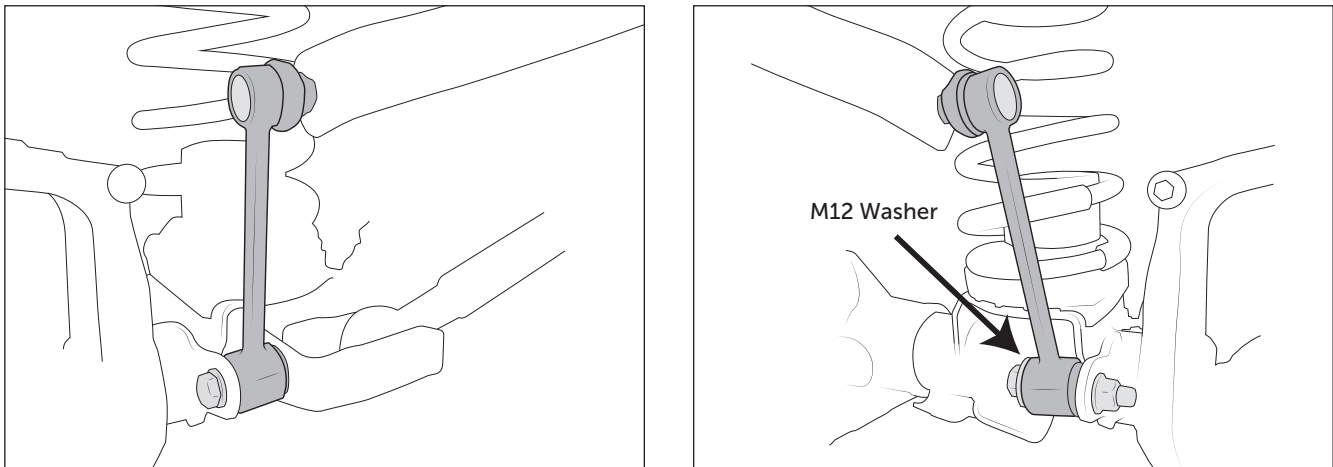

Figure 19
13. Install AEV end links (fig. 19). Add the supplied M12 flat washer to the open side (toward vehicle center) of the driver-side, axle end mount.